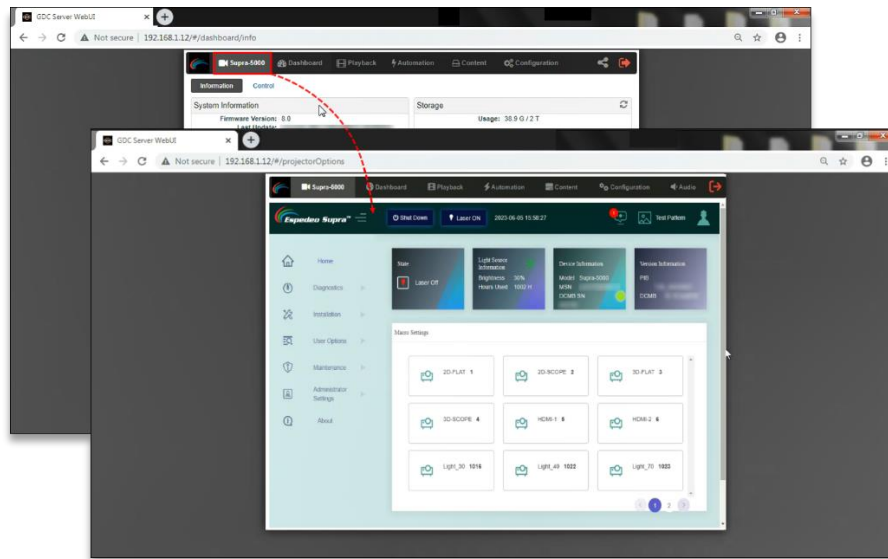

Figure 15: Accessing Supra Command Center when Single tab mode is enabled
- a. When the **Single tab mode** option is enabled; you can access the Supra Command Center web interface within the DCMB Web UI, by clicking on the **'Supra-5000'** tab (as shown in **Figure 15**).